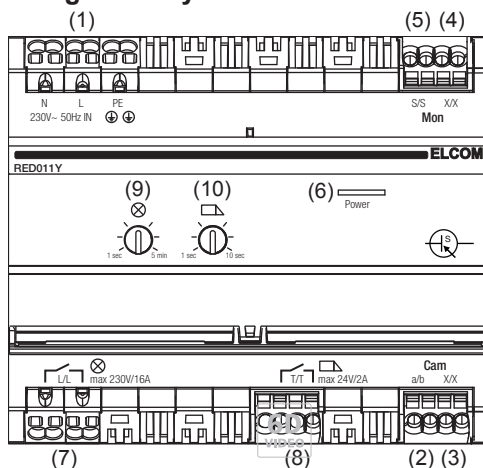

Figure 1: Design and layout of the device
Operating/overload LED Power (Figure 1, 6)
- Clip device onto DIN rail in accordance with DIN EN 60715. The operating voltage connection (Figure 1, 1) must be at top.
- Connect equipotential bonding conductor to connection **PE** (Figure 1, 1).
- Connect the phase protected by a 16 A circuit breaker to connection **L** and the neutral conductor to connection **N** (Figure 1, 1).
- For manipulation protection, connect the door release to the contact \square (Figure 1, 8).
- In the case of multiple door stations, the door release must be controlled 2pole (manipulation protection). Connect one pole to the door release contact of the door stations and the second pole to the door release contact \square (Figure 1, 8) of the line power supply.
- Connect main video or audio door stations to the terminals **X/X Cam** (Figure 1, 3). 0 ... 9 is adjustable as main door address.
- Connect 2-wire line to the terminals **X/X Mon** (Figure 1, 4), e.g. audio indoor stations and video indoor stations as well as floor door stations.
- Connect necessary additional power supplies (Table 3) from video indoor stations to the terminals **S/S** (Figure 1, 5).
- Connect required i2 audio devices, e.g. switching relay and TK interface, to the i2 audio line **a/b** (Figure 1, 2).